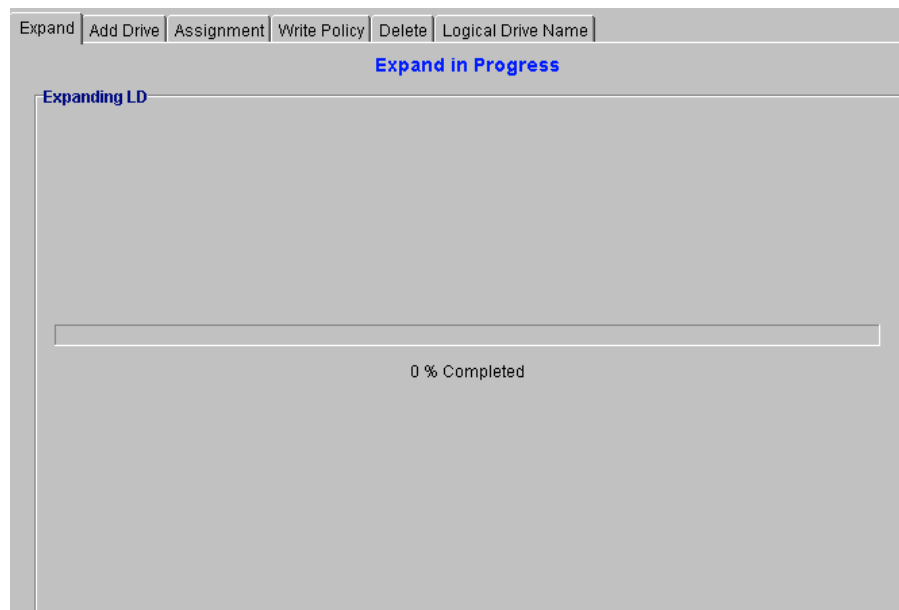

Figure 8-19: Expand in Progress
Step 3. If you selected the “**OK**” button in the “*Please Confirm*” window the “*Create In Progress*” content window shown in *Figure 8-19* will display logical drive creation progress.